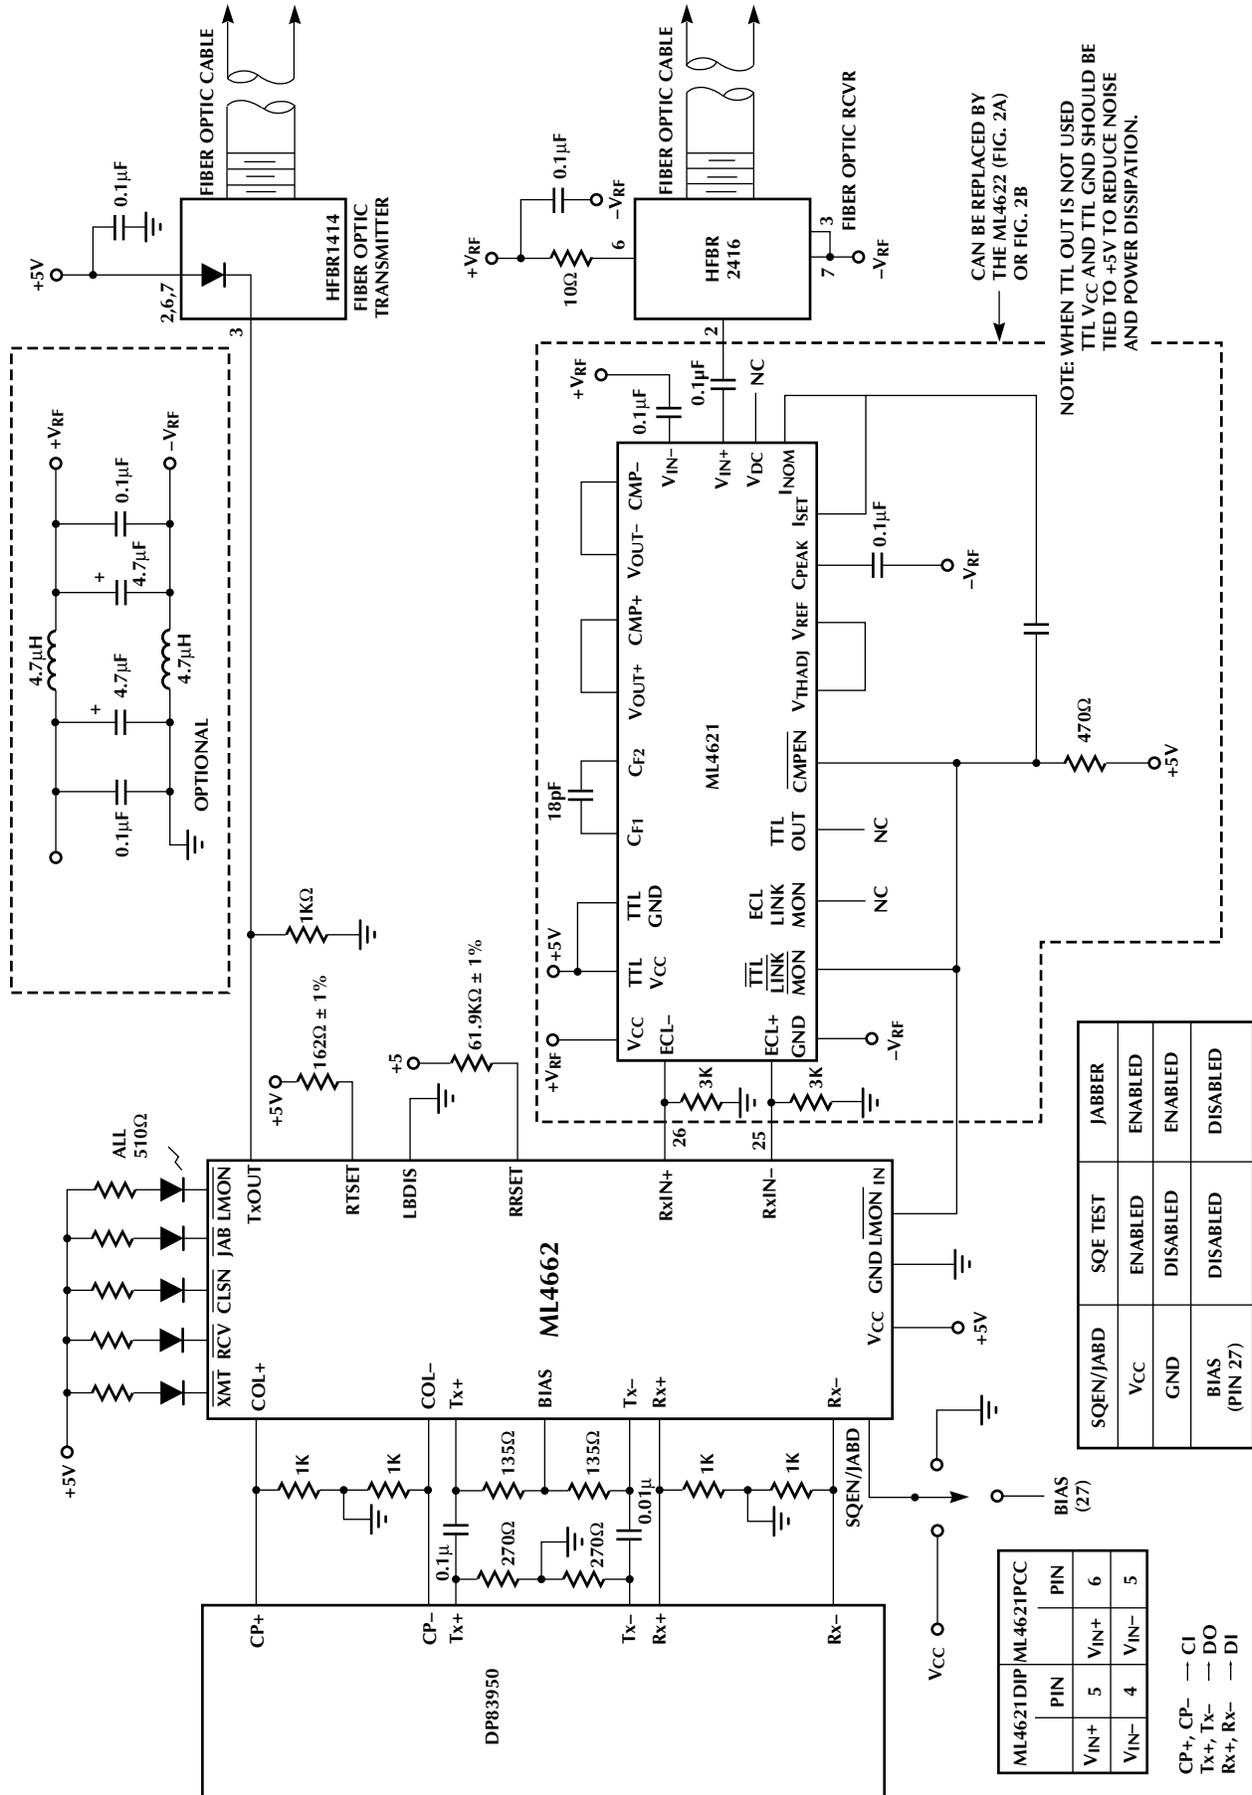

Figure 8. Interfacing the ML4662 to DP83950
The ML4662 and ML462X can be used in a HUB application. Figure 8 shows the interface between the ML4662 and the National Semiconductor DP83950 Repeater Interface Controller (RIC) The DI and CI pairs are DC coupled but DO is AC coupled with 0.01 μ F in each lead. The 1K Ω pulldown resistors on the DI and CI pairs provide the necessary source current to drive DI & CI pairs.
National Repeater: The integrated 10BASE-T transceivers in the National repeater chip can be disabled. Since each Twisted Pair (TP) port is compatible with AUI (Attachment Unit Interface) compliant transceivers, we interface each TP port to the ML4662 through the AUI interface as shown in figure 8. The receive and collision pair (RX \pm , COL \pm) are DC coupled and the transmit pair (TX \pm) is AC coupled. AC coupling is needed at the transmit pair due to different common mode voltage between the TX \pm of the ML4662 and the National chip. Loopback is enabled in the ML4662 in order to have collision circuit enabled.